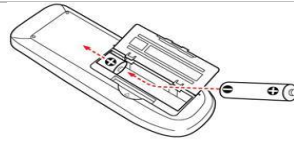

Fig. 3.3 Insert new batteries in the slots provided
Step 2 – Insert the batteries with the + and – ends facing as shown in Figure 3.3.
Step 3 – Insert the batteries with the + and – ends facing as shown in Figure 3.3.